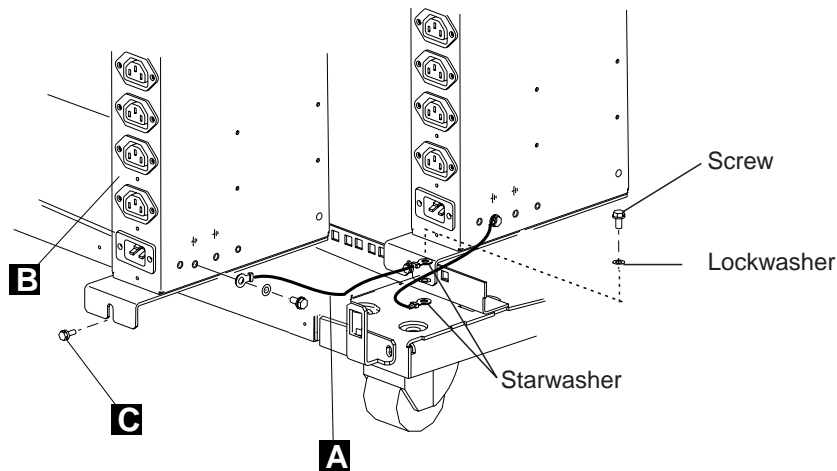

Figure 1-12. Installing the Second ac Outlet Distribution Box
3. \_\_\_\_ Refer to Figure 1-12 on page 1-12, using one lockwasher (PN 1622319), one starwasher (PN 1622347), and one screw (PN1673983), **connect** the ground jumper **A** (PN 63F2459) to the new ac outlet distribution box. Then, **install** the second ac outlet distribution box close to the first ac outlet distribution box and fasten using two screws **C** (PN 1621230).